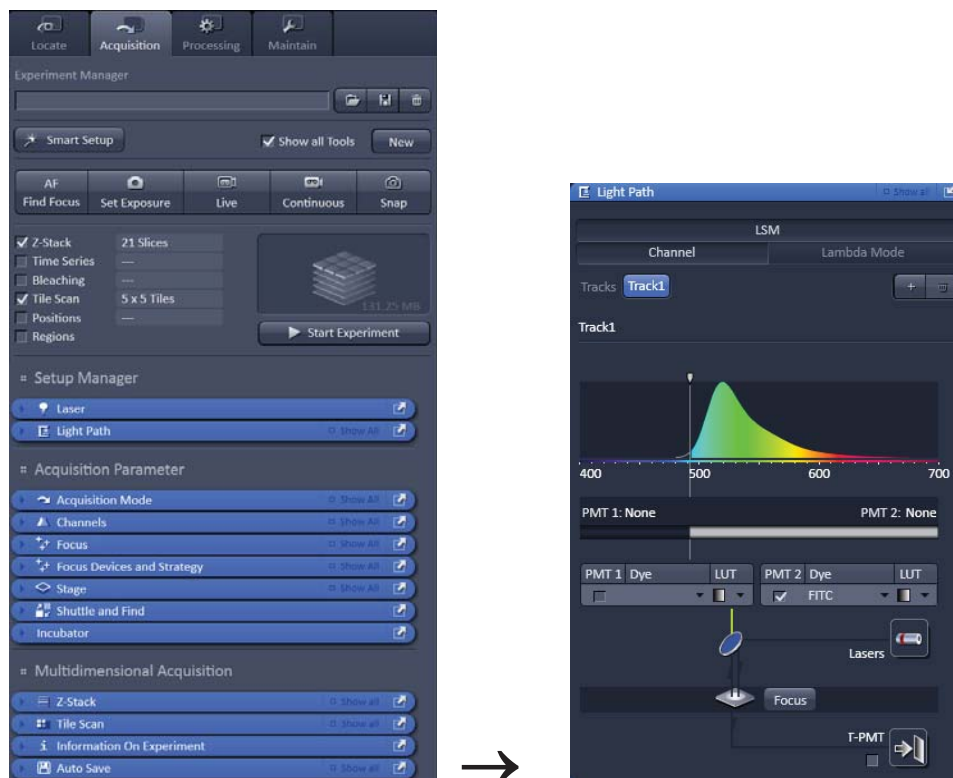

Fig. 17 Light Path tool for a single track (LSM 700)
The open **Light Path** is shown in Fig. 17.
- Select **Channel** mode if necessary (Fig. 17).
- Click on the **LSM** button in the light path tool (Fig. 17).
The following functions are available in the **Light Path** tool of the **Setup Manager** tool group (Fig. 17, Fig. 18 and Fig. 19).